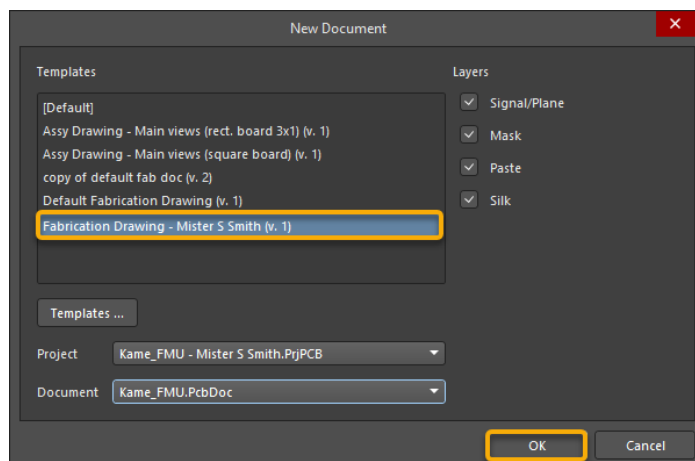

Figure 13. New Draftsman Document using the Custom Fabrication Template
- a) From the *New Document* window, select the *Fabrication Drawing - [Your Name]* template that we just created, as shown in Figure 13.